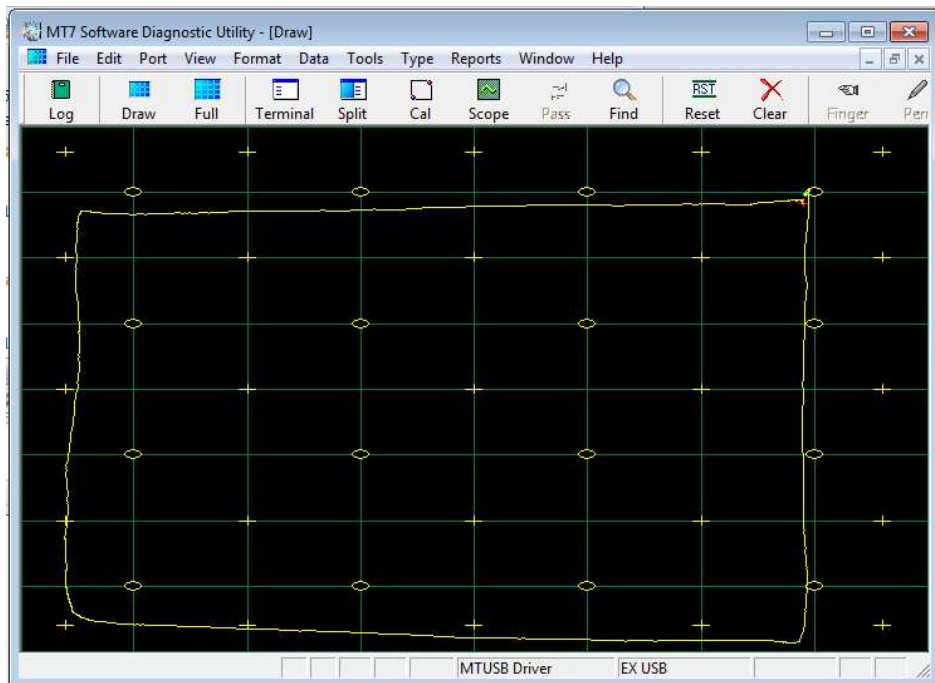

Figure 3 Full Draw Screen that is good
6.2.4.2. For SCT using one finger, draw a box shape around the perimeter of the sensor. The drawing should occur between 0.5 – 1” in from the outer border of the sensor. You should observe results similar to the screen shown in Figure 3.